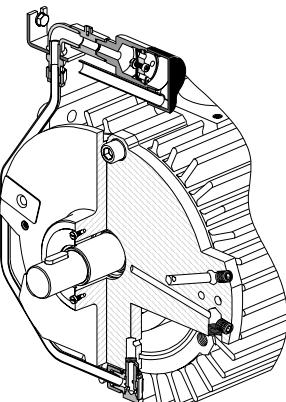

Fig. 10.3
- 4. Cleaning of gas ballast valve (Fig. 10.3)**